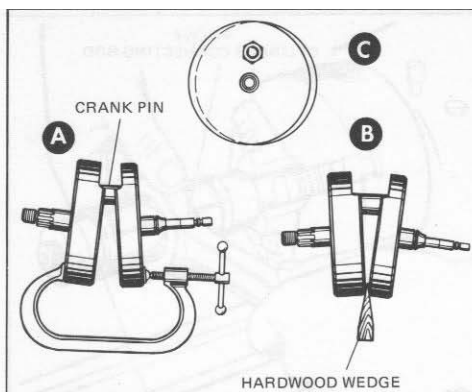

Figure 3-39. Correcting Flywheel Alignment
5. See Figure 3-39. Flywheels may be out of true three ways, A, B and C, or a combination of two of the three ways.